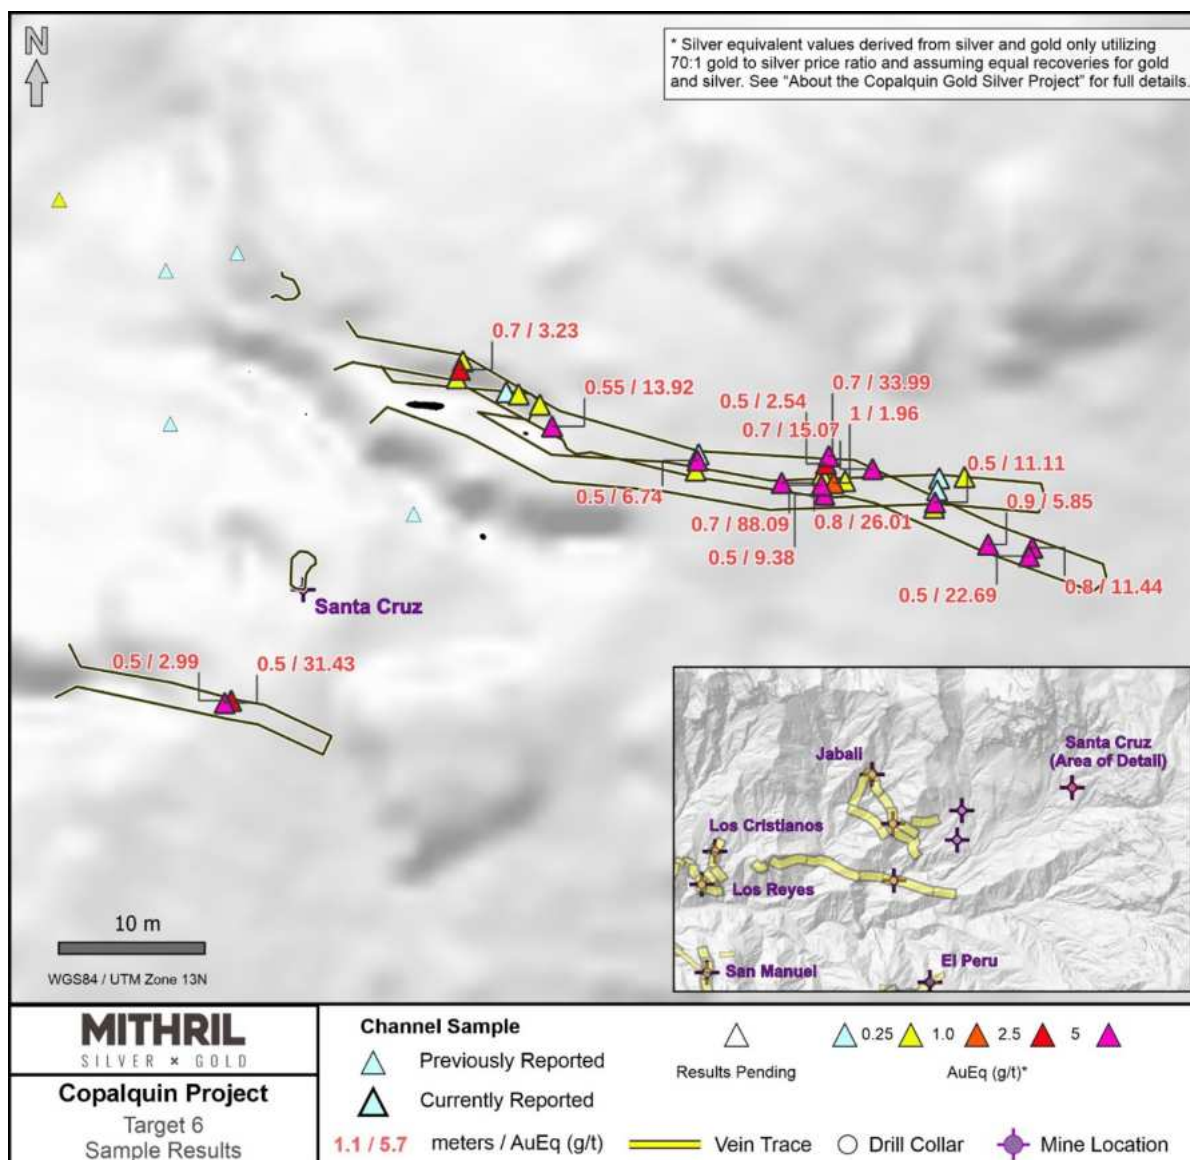

Figure 4 Channel sample results at the newly developing Target 6 (Santa Cruz historic mine area)
**Target 6** is a recently defined zone located 1.4 km east of Target 3 (see Figure 3). Within the Target area lies the historic Santa Cruz mine which hosts east-west trending, subvertical mineralized quartz veins and northwest trending quartz breccias. Sampling of the underground workings has yielded numerous high-grade gold and silver listed below (see Figure 4), including 0.70 m @ **57.8 g/t gold, 2,120 g/t silver** and 0.70 m @ **23.2 g/t gold, 755 g/t silver**. Mapping and sampling of the **Target 6** area is ongoing.